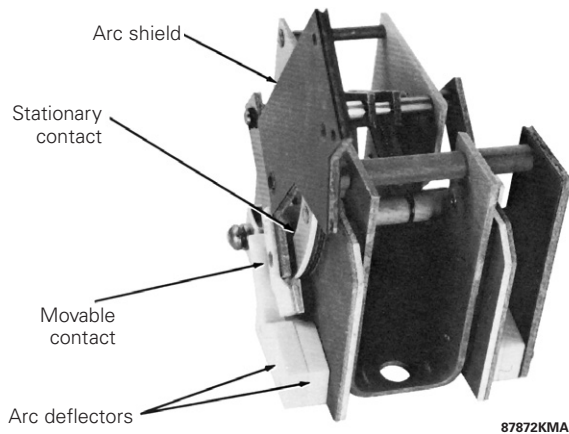

Figure 12. Type H contact-box assembly
1. Connect a low-voltage variable-current source to the recloser terminals as shown in Figure 12.